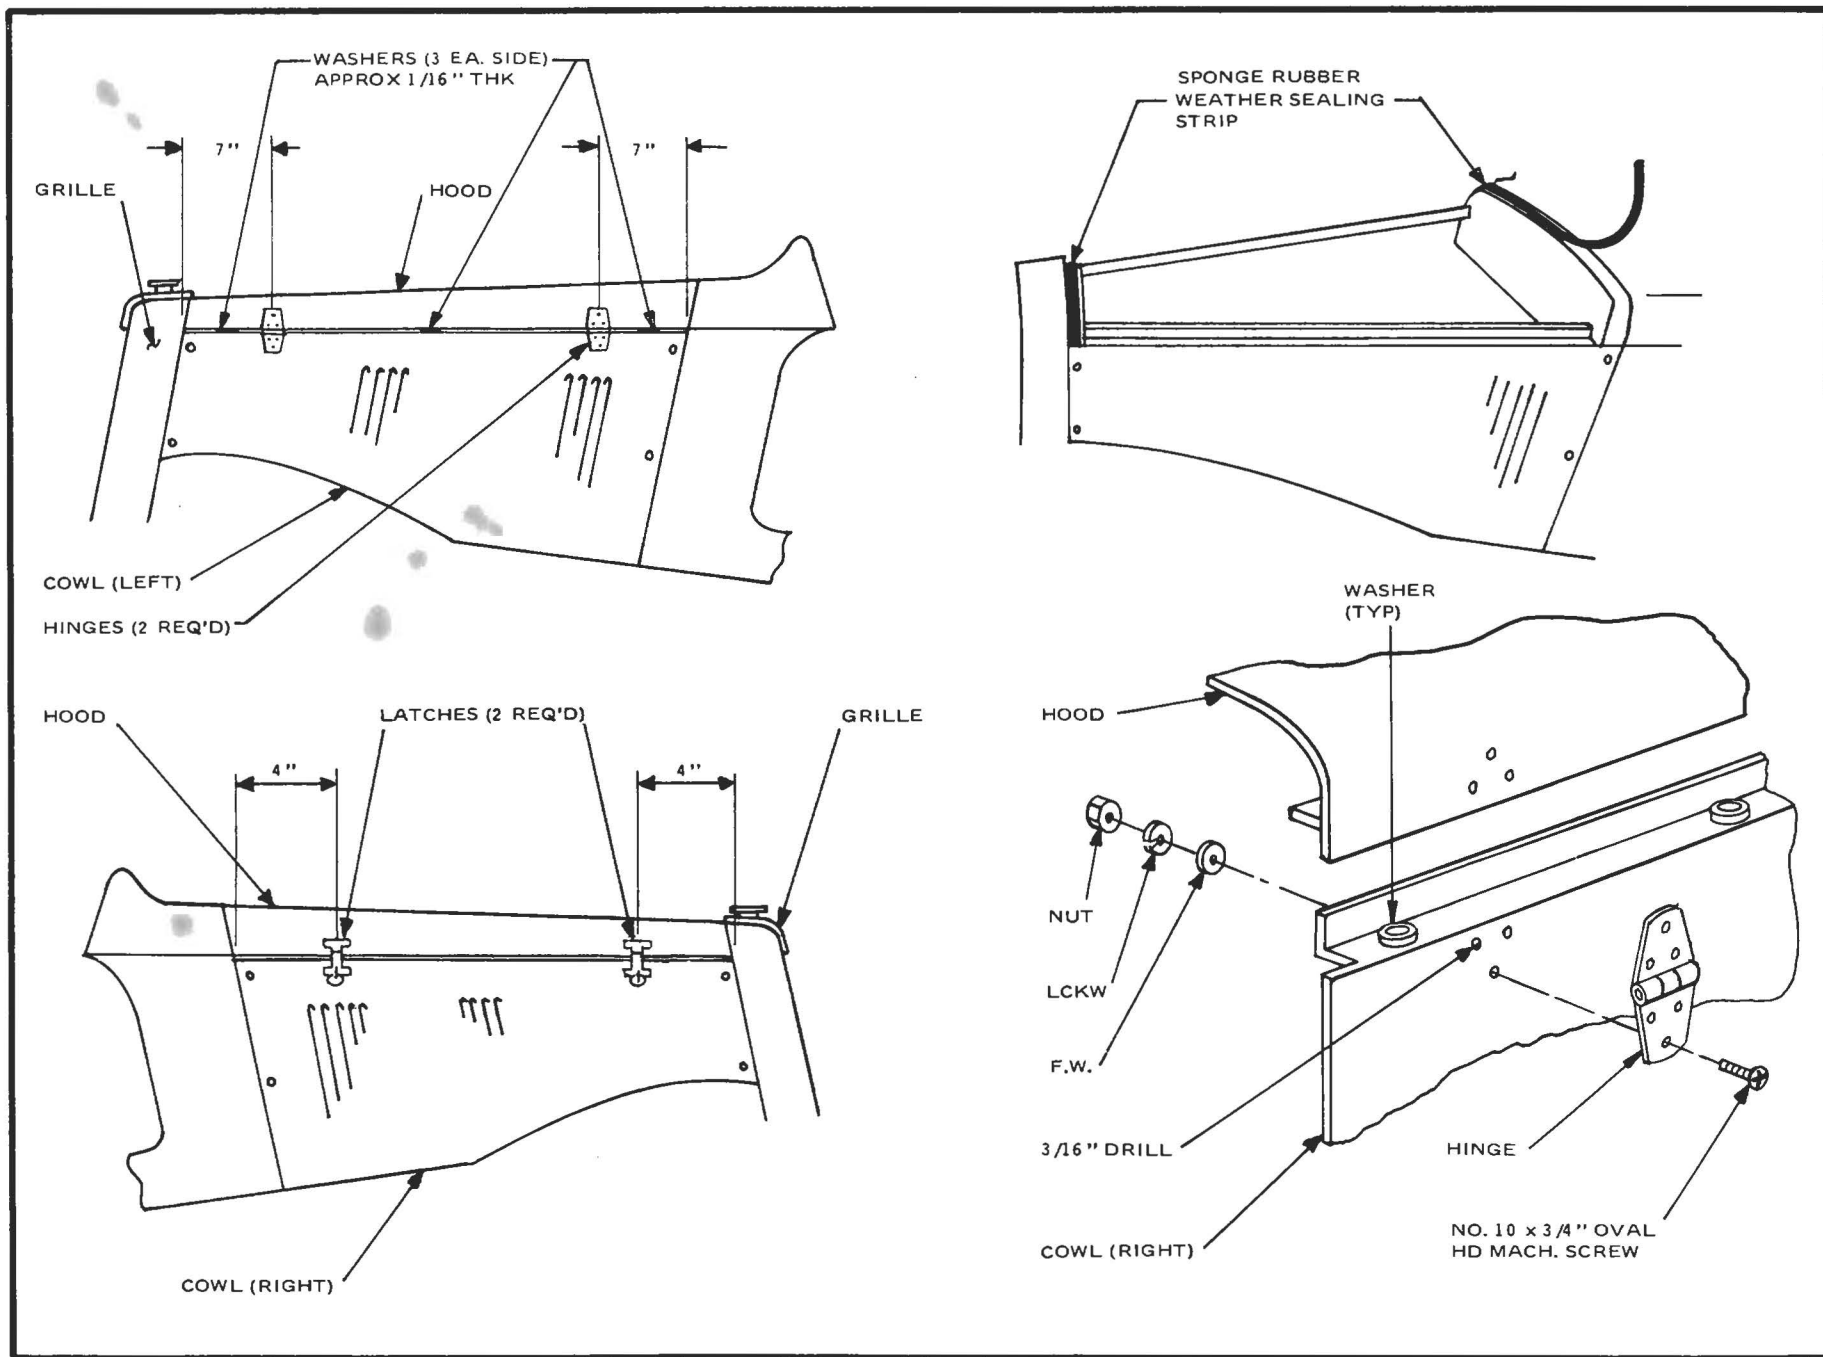

Figure 26
- Reinstall hood. Space hood up on the left side only approximately 1/16 of an inch. Use three washers as temporary spacers, mark the location of the hinges. The center of each hinge should be 7" from the end of the hood, on the left side. Drill and bolt to body and hood, using No. 10 x 3/4" oval head screws. Install latches approximately 4 inches from ends of the hood on the right side, drill and bolt as hinges. Install a sponge rubber weather sealing strip on rear of hood opening and along top of grille, where they contact hood (Figure 26).